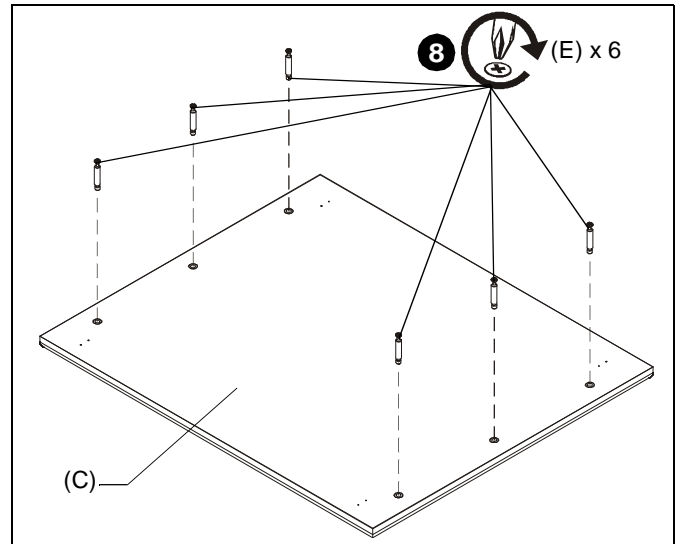

Figure 7
- Screw six connecting bolts (E) into bottom of rack top (C). (See Figure 7)